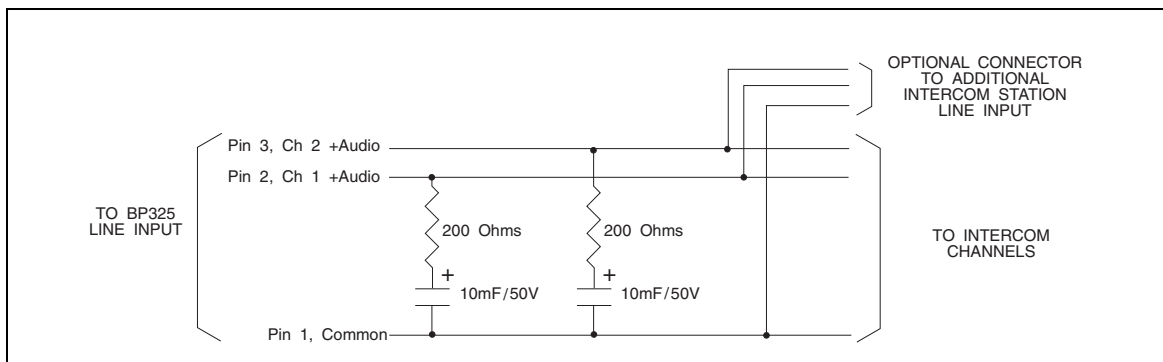

FIGURE 4. LINE INPUT Connector Wiring for 2-Channel Operation with Non-RTS Power Supply
7. Using an XLR-3-32 female receptacle, connect the external power source to the LINE LOOP connector as shown in Figure 4. Connect +DC to pin 2 and connect power supply common to pin 1.